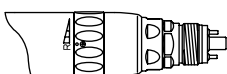

Fig. 4
- (2) Reverse Rotation : Turn the FWD/REV change ring to "R" as shown in Fig. 4.